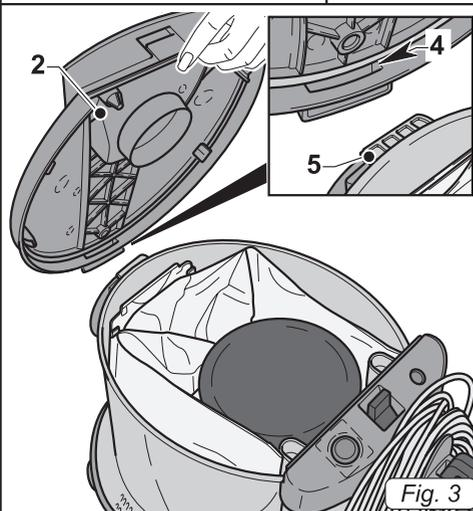
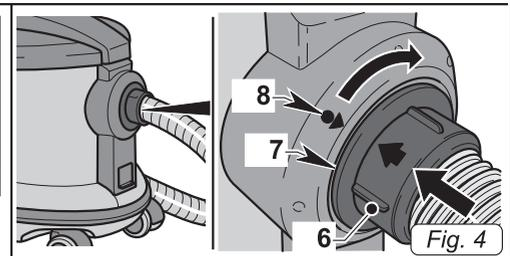

Fig. 3
Fig. 4
- Replace the cover (2 Fig. 3), inserting the slot (4 Fig. 3) on the cover in the tab (5 Fig. 4) on the drum, then push it down until you hear it click into place.
- Insert the sleeve with bayonet coupling (6 Fig. 4) into the hole (7 Fig. 4) on the drum, ensuring the arrow on the sleeve (6 Fig. 4) coincides with the arrow (8 Fig. 4) on the coupling ring nut, then turn the sleeve clockwise until it locks.